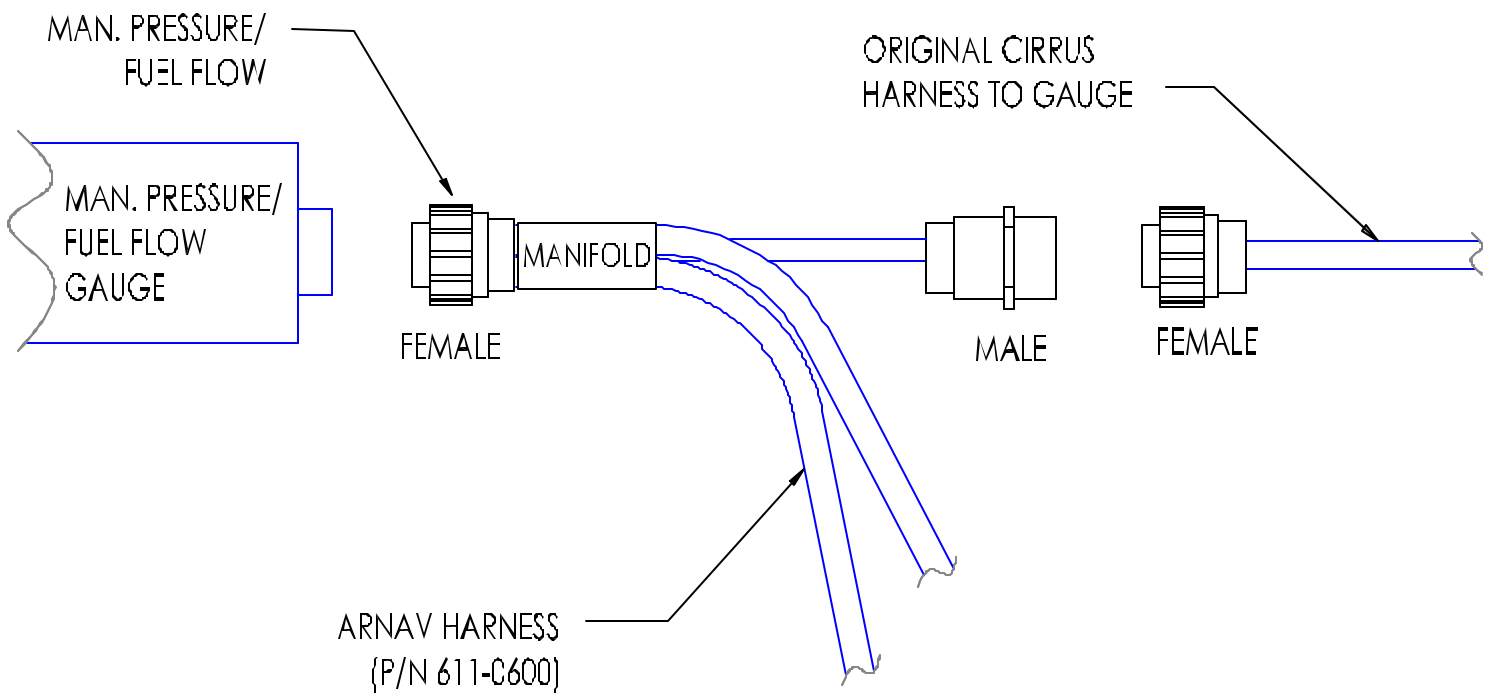

Figure 8-1
5. Connect the other 9-pin connector of the 611-0600 harness to the 9-pin connector that was removed from the indicator. (Refer to **Figure 8-1**).